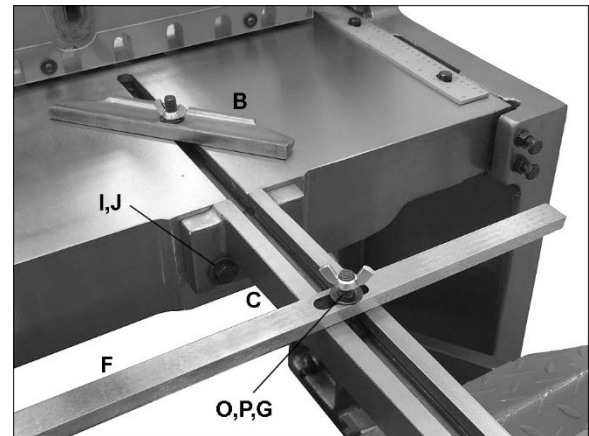

Figure 3
- 1. Install four hex cap bolts and washers (I/J, Figure 3) loosely into front table edge.
- 2. Slide extension arm (C) onto bolts, leaving extension arm slightly above table surface. Make bolts snug, and tap down extension arm until level with table surface. Tighten bolts firmly. Repeat for other extension arm.